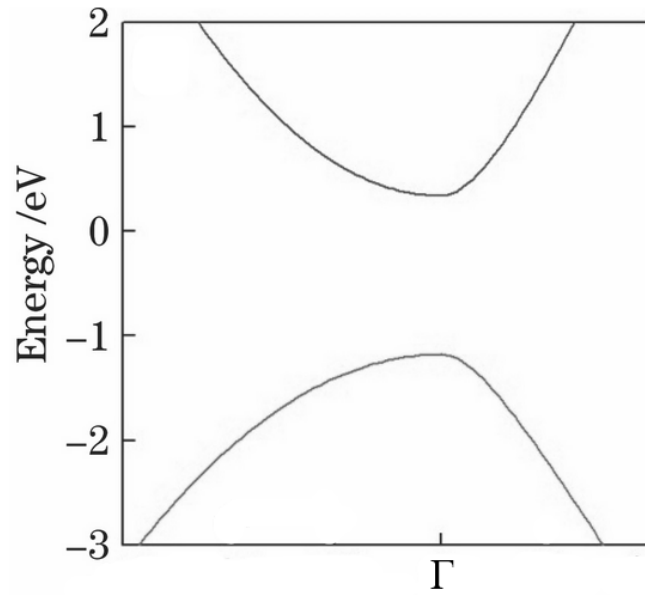

Fig. 2
- (c) Figure 2 shows the band diagram of monolayer black phosphorus. Discuss why and how the bandgap varies with layer number and sketch the band diagram of AB stacked bilayer black phosphorus. [20%]